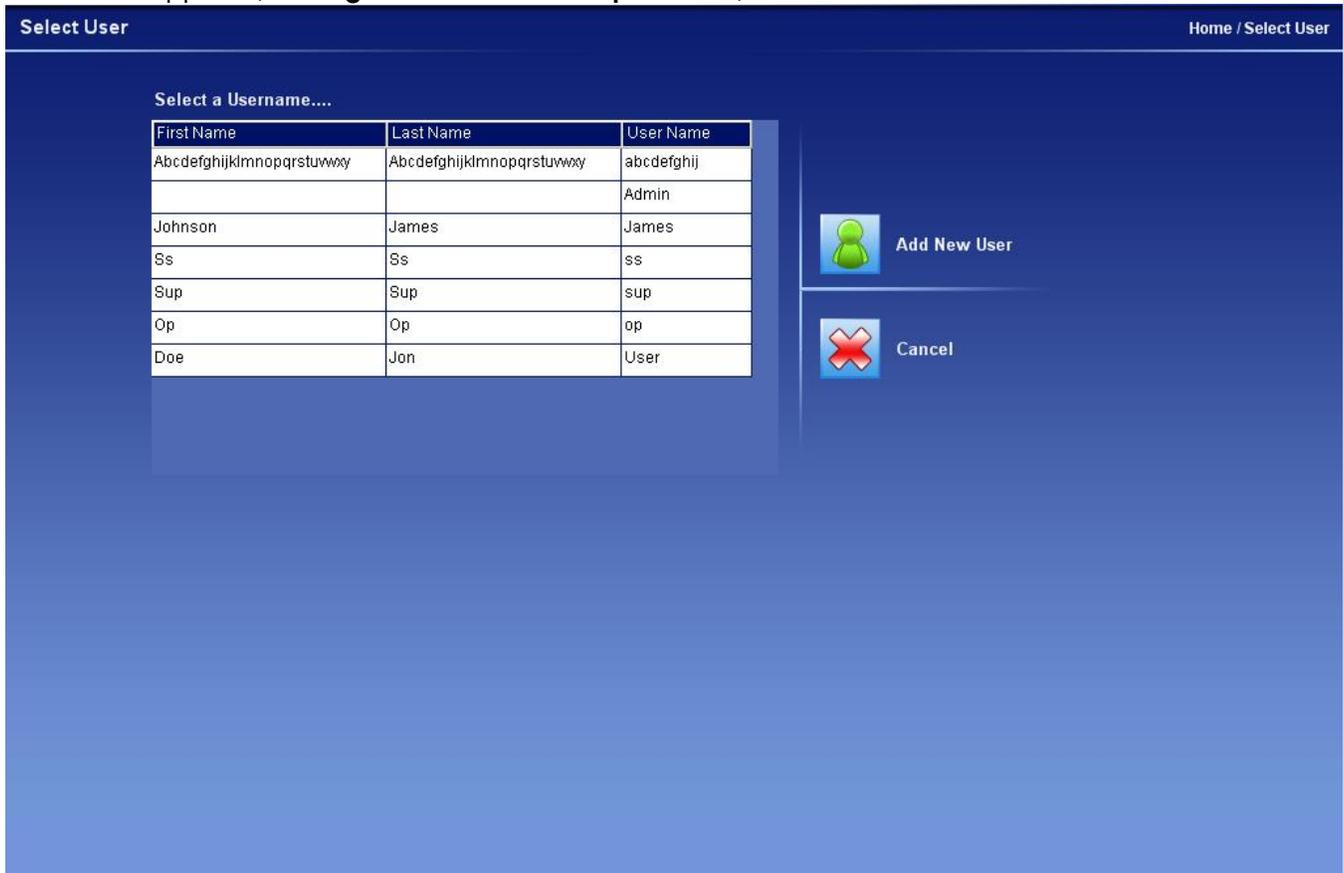

Figure 27 – Select a Username Screen
6. From the Main Menu, select the **User Setup** button by tapping it once. The Select a Username screen will appear which includes a list of all established system users. (See **Figure 27 – Select a Username Screen**).